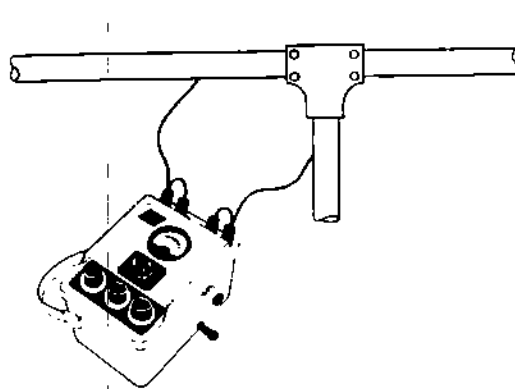

Figure 3-9.
b. TESTING THE CONTINUITY OF CONDUIT OR OTHER EARTH CONDUCTORS. To measure metallic resistances of low inductance or capacitance conduit or other earth conductors, connect the earth tester as illustrated in Figure 3-9. Due to the low resistance to be measured, contact resistance between leads and conduit becomes a major consideration and must be as low as possible.